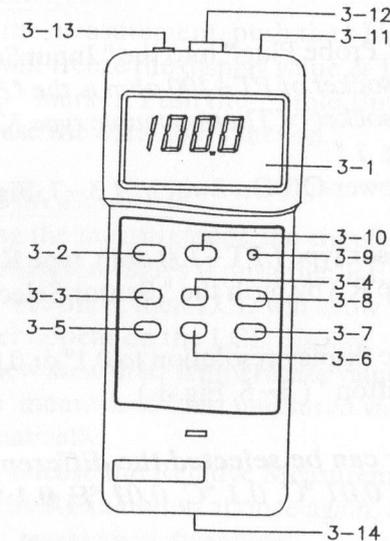

Fig. 1
- * *The input socket of PT-100 ohm is the " 3-12, Fig. 1 ".*
- * *The input socket of Thermocouple type K/J/T/E/R is the " 3-11, Fig. 1 ".*
- 2) Select the " Power Off/On Switch " (3-7, Fig. 1) to " On " position.
- 3) Select the sensor type (PT-100 ohm, type K, type J, type T, type E, type R) by push the " Sensor Select Button " (3-5, Fig. 1).
- 4) Determine the display resolution to 0.1° or 0.01° by pushing " $0.1^{\circ}/0.01^{\circ}$ Button " (3-8, Fig. 1).
During the measurement, push the " Hold Button " (3-2, Fig. 1) will freeze the display value & LCD will show the " HOLD " marker. Push the " Hold Button " once again will release the data hold function.
@ During the measurement, the circuit will memorize the last measured values if push the "REL. Button " (3-9, Fig. 1) at once, then LCD will show "0" & a " REL " marker appear on the LCD display.
The Data Record function displays the maximum and minimum readings. To start the Data Record function, press the " Record Button " (3-3, Fig. 1) once.
- a) Push the " Recall Button " (3-4, Fig. 1) once, the " Max " symbol along with the maximum value will appear on the display.
- a) Plug in a type k thermocouple probe to the input socket & Set the " Sensor Select Button " (3-5, Fig. 1) to the " Type K". Now the meter is measured the environment Temperature value.
- b) Use the fingers to hold on the "REL Button " (3-6, Fig. 1) together with the " Sensor Select Button " (3-5, Fig. 1) until the right down corner of LCD display show the "A" mark, use the screw driver to adjust the " Offset VR" (3-9, Fig. 1) until the display reading same as the environment temp. value exactly. Release the "REL Button " & the "Sensor Select Button ", then the function will return to normal condition.
The instrument features an RS232 output via 3.5 mm terminal (3-12, Fig. 1). The connector output is a 16 digit data stream which can be utilized to the user's specific application. An RS232 lead with the following connection will be required to link the instrument with the PC serial input.
- 2) Slide the " Battery Cover " (3-14, Fig. 1) away from the instrument by the coin and remove the battery.